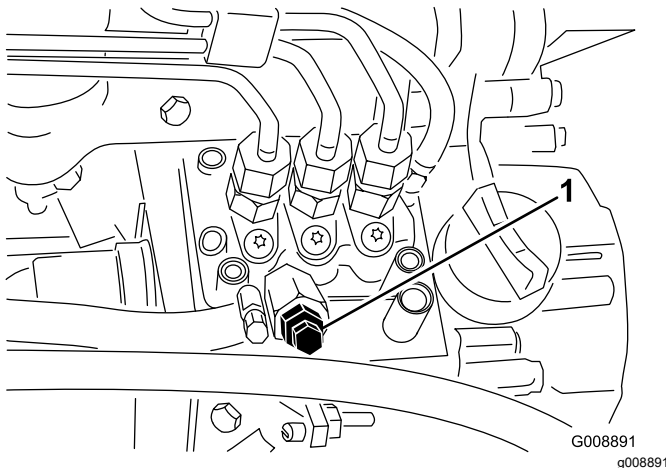

Figure 26
3. Open the air bleed screw on the fuel injection pump (Figure 26).